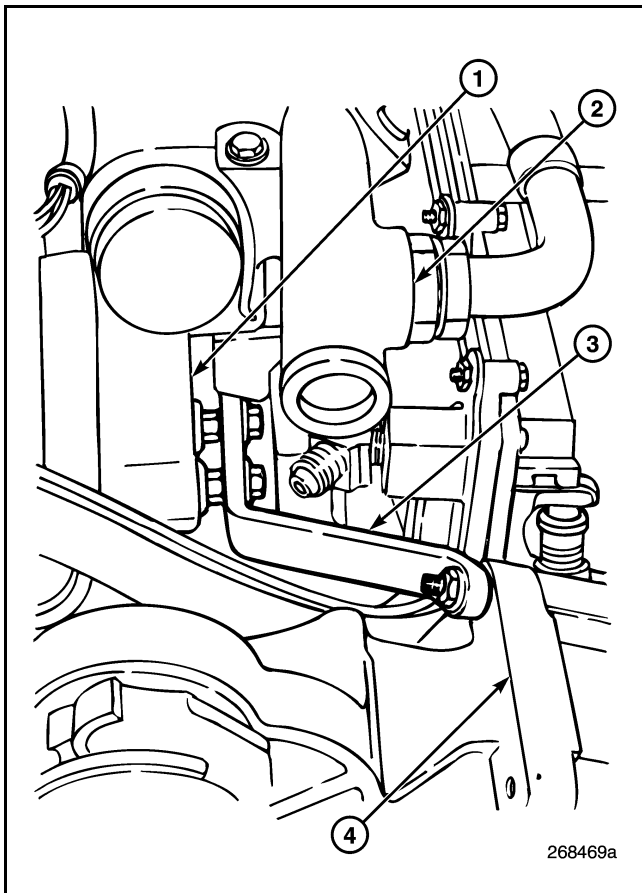

Figure 408 — Stiffening Bracket
- Position the water pump stiffening bracket over the two studs at the forward position of the coolant manifold. At the same time, position the forward section of the stiffening bracket over the backside of the A/C compressor upper rear mounting stud. Install the three M8 flanged nuts on the stiffening bracket and tighten to 20 lb-ft (27 N•m). Refer to Figure 408.